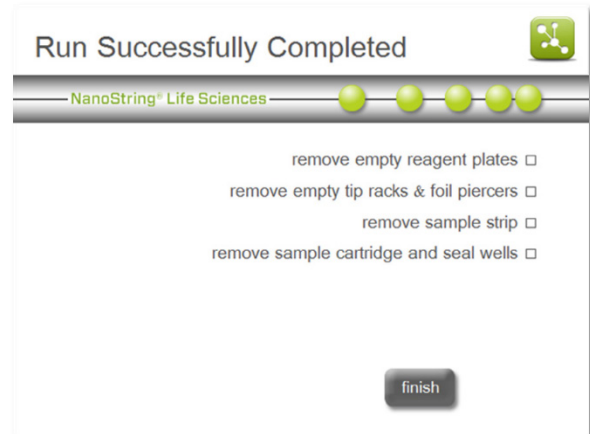

Figure 37: The 'Run Successfully Completed' screen.
1. Press **next**. The 'Run Successfully Completed' screen will appear (**Figure 37**).